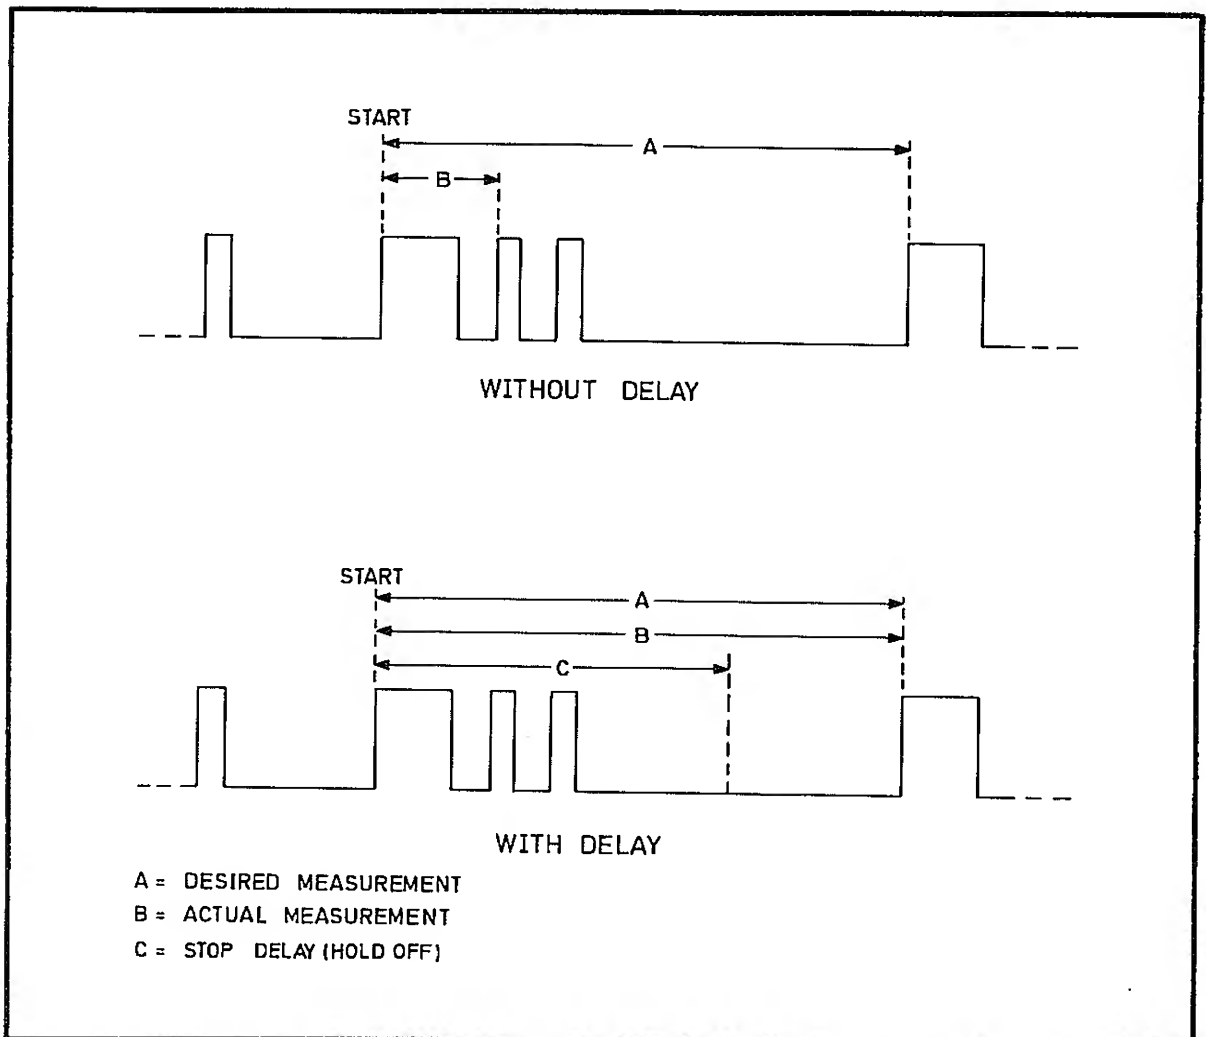

Fig 4.1 Use of Stop Circuit Delay
- 27 The delay can be used to prevent the stop circuit being triggered prematurely by spurious signals, such as those resulting from contact bounce. The principle is shown in Fig 4.1.